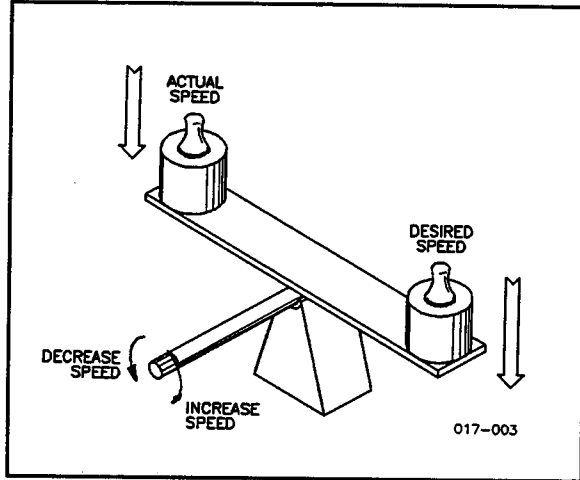

Figure 1-2. Speed Balance
- The Driver looks at the speedometer (this is the actual speed) and compares the desired speed to the actual speed. If equal he holds the throttle steady. If not equal, he increases or decreases throttle position to make the desired speed and the actual speed the same, or balanced. See Figure 1-2.